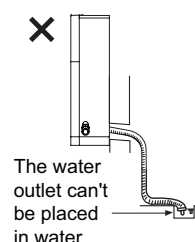

Fig.25
- 3.The water outlet can't be placed in water in order to drain smoothly.(As show in Fig.25)